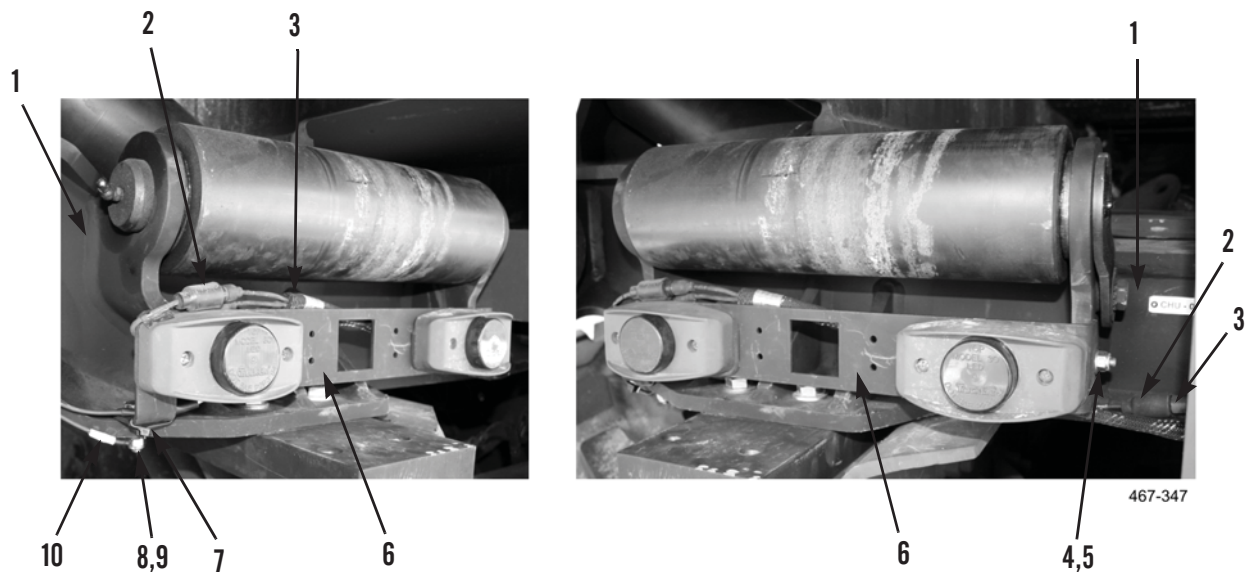

Figure 18. Light Bracket Installation.
5. Install light bracket (Figure 18, Item 6), bolt (Figure 18, Item 5), and nut (Figure 18, Item 4) on slider assembly (Figure 18, Item 1).
6. Install bolt (Figure 18, Item 9), ground wire (Figure 18, Item 10), and nut (Figure 18, Item 8) on slider assembly (Figure 18, Item 6).
7. Connect three light connectors (Figure 18, Item 2) to vehicle wiring harness (Figure 18, Item 3).
8. Install new tiedown straps (Figure 18, Item 7) as required.